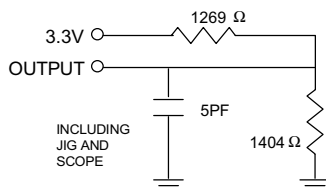

FIGURE 1B
5. Transition is measured $\pm 500\text{mV}$ from steady state with $C_L = 5\text{pF}$ as shown in Figure 1B. The parameter is guaranteed but not 100% tested.
10. Transition is measured $\pm 500\text{mV}$ from steady state with $C_L = 5\text{pF}$ as shown in Figure 1B. The parameter is guaranteed but not 100% tested.